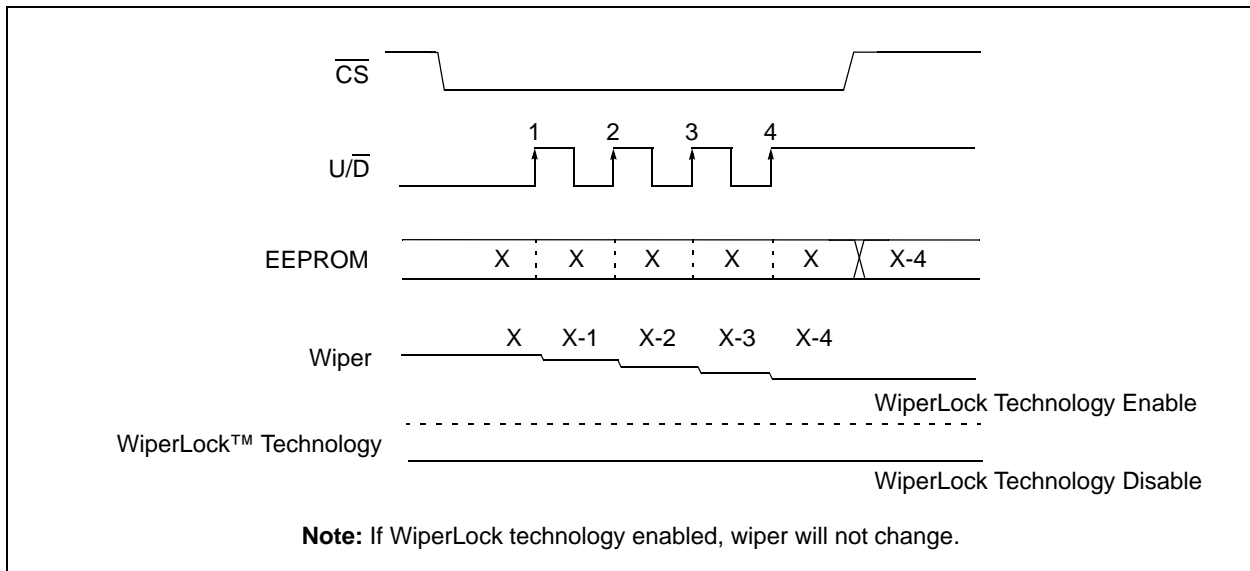

**FIGURE 5-2:** Low-Voltage Increment with Write of Wiper Setting to EEPROM.
2. If the  $U/\overline{D}$  signal is high when ending Decrement mode, the current wiper value will be written to the internal EEPROM. See Figure 5-2.